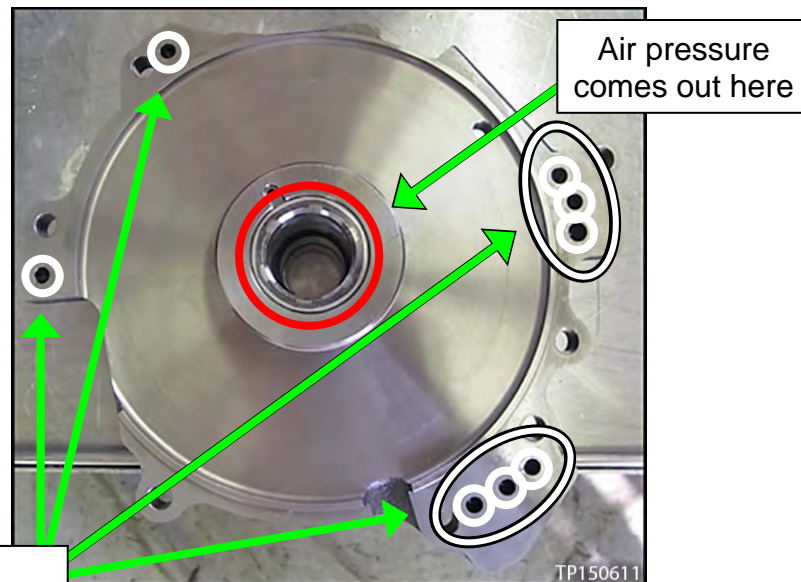

Figure 53
9. Clean out/spray in the oil pump cover oil passages where shown in Figure 53 and 54.
**NOTE:** Do not stand in front of the passage shown in Figure 53 during compressed air use.